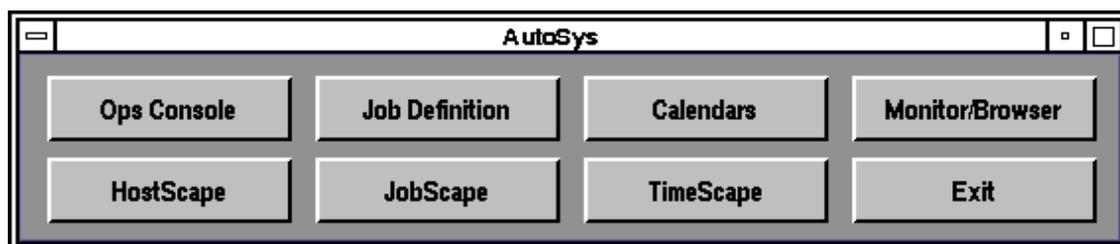

Figure 40. AutoSys GUI Control Panel
- The **AutoSys GUI Control Panel** (Figure 40) is displayed.
The procedure for configuring AutoSys/AutoXpert runtime options assumes that AutoSys has been launched and the **AutoSys GUI Control Panel** (Figure 40) is being displayed. Perform only the steps that are applicable to the changes to be made (as specified in Table 5). Note that if the Freeze Frame feature is enabled, any changes entered will not take place until Freeze Frame has been disabled.